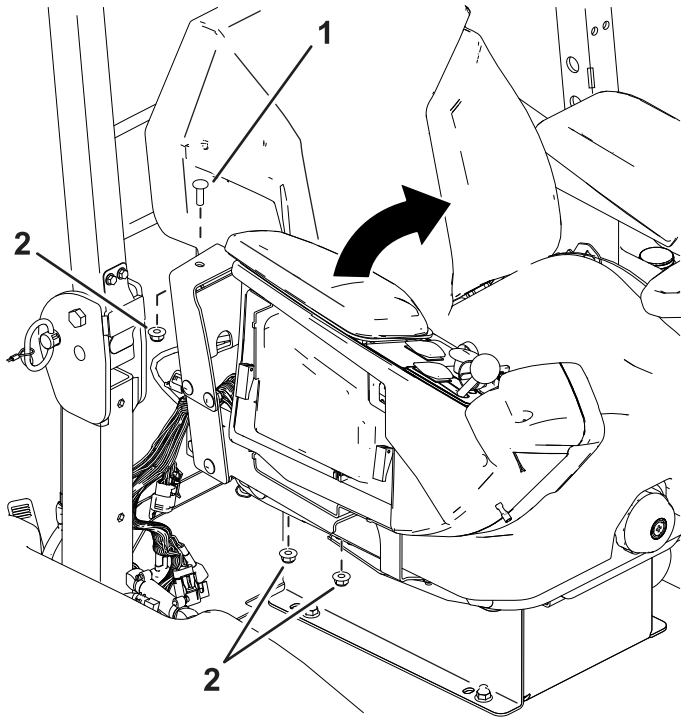

Figure 5
7. Remove the nuts and bolts from the right armrest and fold it to the center (Figure 5).